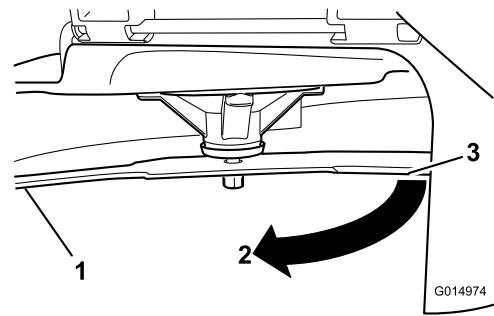

Figure 106
3. Measured distance between blade and the surface (A)
4. Rotate the same blade 180 degrees so that the opposing cutting edge is now in the same position (Figure 106).